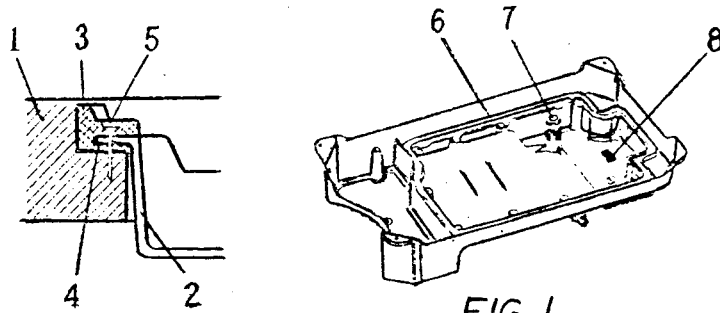

FIG.1
For purpose of shipment the machine head and its oil pan are separated. Unpack the machine with great care to protect against the loss of any assembly part. Protect machine head and oil pan against entry of foreign matter. Place the resilient rubber cushions (1) at the four corners of the oil pan (2) and insert the oil pan into the cut-out of the table top. Place the oil pan gasket (6) into the groove at the periphery of the oil pan, insert the knee lifter plunger (7) into its hole in the oil pan and the filter magnet (8) into the square-shaped recess. (Fig. 1) Insert the hinges (9) into the holes at the rear of